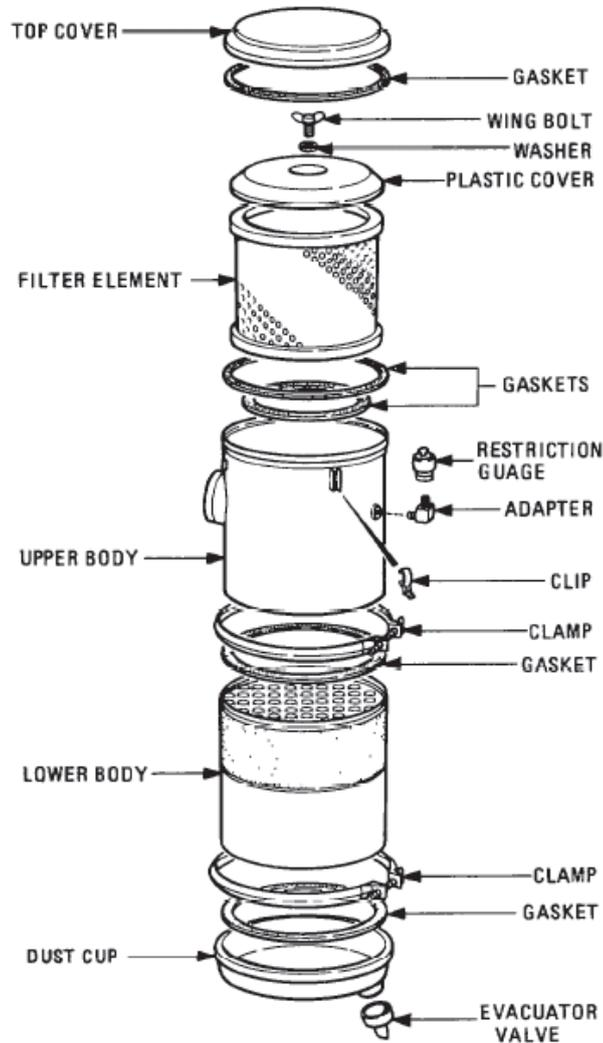

Figure 9 Air Cleaner (Exploded View)
26. The dust cup, lower body and upper body are held together by clamps (Figure 9). Rubber O-rings are placed between these components to ensure non-filtered air cannot enter and bypass the cleaning process. The filter element is positioned in the upper body with a rubber O-ring installed at the base of the element. The top of the filter element is sealed by means of a plastic cover, with a wing nut securing both the plastic cover and element in position. The top cover is installed with an O-ring on the upper body and is locked in position by spring clips, effectively sealing the air cleaner body so that air passing through the filter must flow via the designed route.